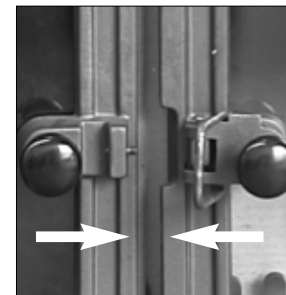

Fig.1
- 1 Pull both sets of doors together (see fig1).
The example fig 1 shows how your Dovre should be installed in a chimneybreast recess for chimneybreasts situated internally and externally.